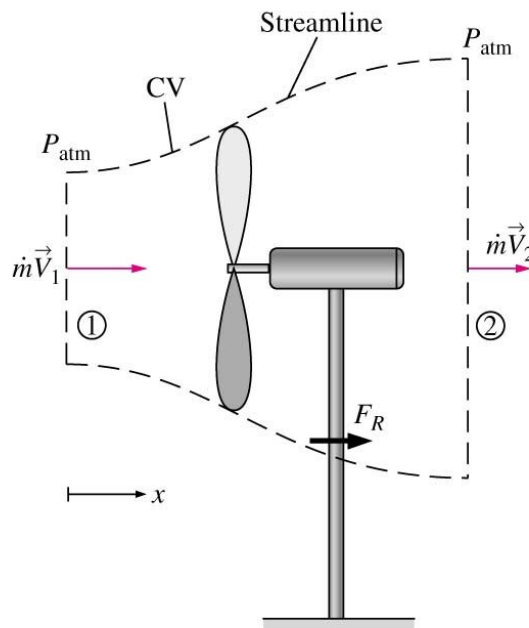

Figure 7
- (b) **Figure 7** shows a wind generator with a 10 m-diameter blade span which is specified to a minimum wind speed of 10 km/h at which it will generate 0.5 kW of electric power. Air density is given as 1.217 kg/m^3 . Answer the questions below regarding the wind turbine.